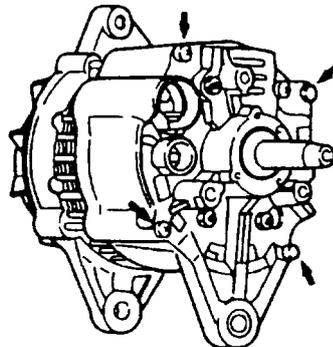

Figure 303 Installing the Rear Cover Through-bolts
- (6) Install the rotor into the stator and rear cover assembly, ensuring that it is correctly located. Remove the wire when the rotor is fully installed and check that the rear bearing and locking ring engage fully.
- (7) Insert a suitable bar or rod through the front and rear pivot holes to correctly align the front and rear covers, install the through-bolts and tighten them securely (Figure 303).